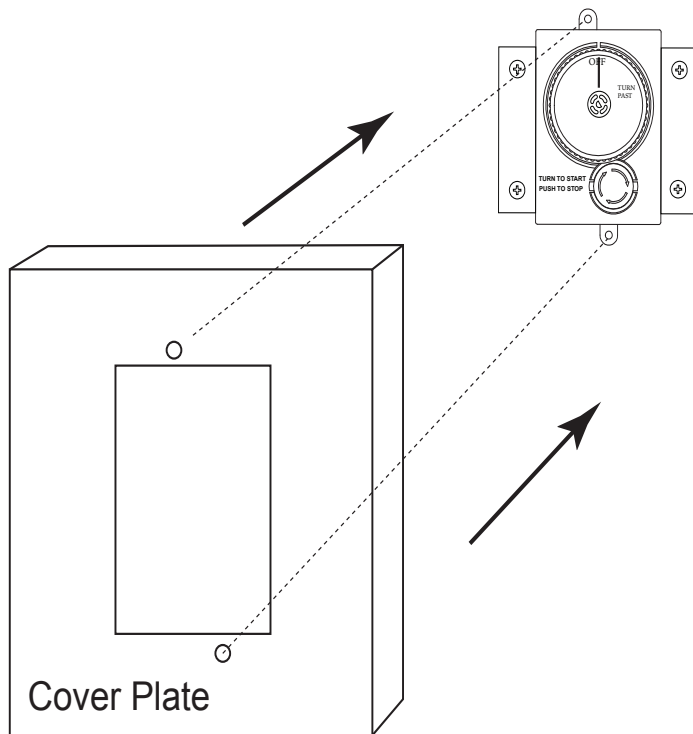

Fig. 7 Installing cover plate.
Step 7: When cover plate is installed over the ESTOP gas timer it will protrude $\frac{7}{8}$ ". See Fig. 7 for outside dimensions.